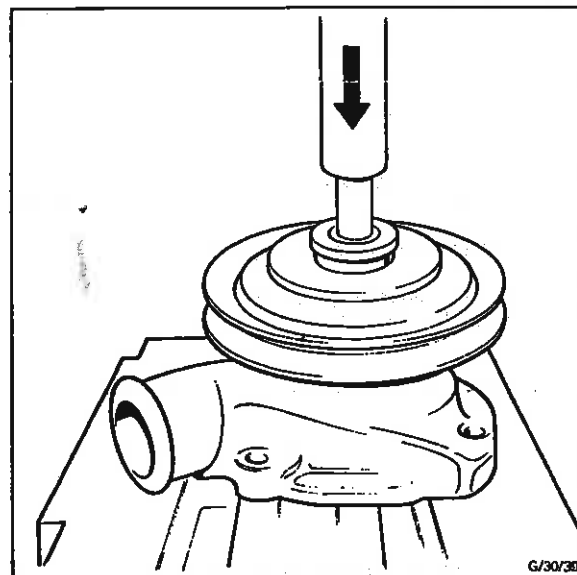

Fig. 6 - Extracting Shaft and Bearing
1. As shown in Fig. 6, support the pump housing on the bed of a suitable press with sufficient clearance to allow the impeller to be pressed out. Push the bearing, shaft and impeller out by pressing on the shaft.